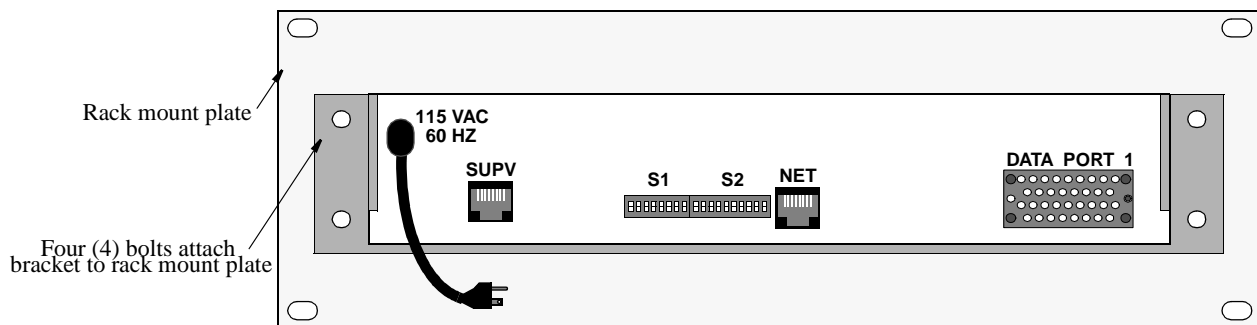

Figure 2-2 Rack Mount Assembly (Rear View)
2. Connect this assembly to the 19" or 23" plate using the four nuts and bolts as shown in Figure 2-2. When the mounting plate is attached to the 3131 and the casing, the unit is secure and cannot be pulled out of the assembly from the front.